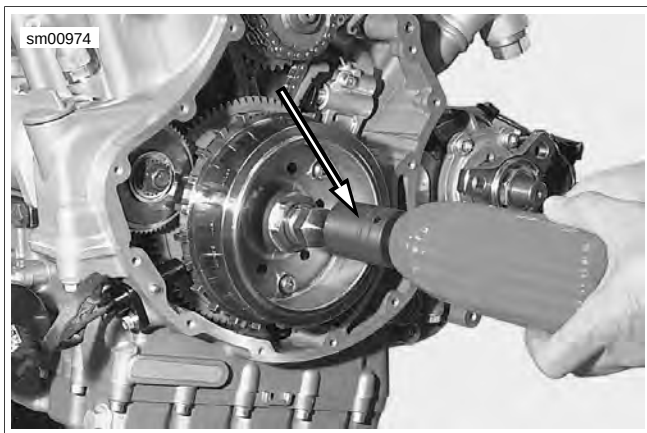

Figure 7-32. Alternator Rotor Remover (HD-45315)
17. See Figure 7-32. Use an impact socket and wrench to tighten the tool removing the rotor from the crankshaft taper.